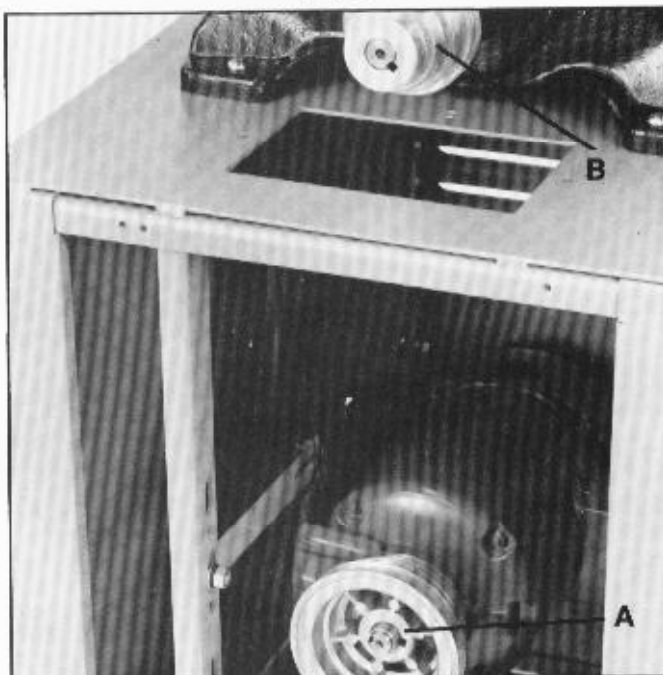

Fig. 4
Both the motor pulley (A) Fig. 4, and the gear box pulley (B) are four step pulleys and should always be assembled opposite each other. Check to see if the gear box pulley (B) is assembled with the largest step of the pulley in the "in" or "out" position. In this case the largest step of the gear box pulley (B) is in the "in" position. Then assemble the motor pulley (A) to the motor shaft with the largest step of the motor pulley in the "out" position, as shown. **NOTE:** When assembling the motor pulley (A) to the motor shaft it is necessary to use the 3/4" to 5/8" reducing bushing on the motor shaft. Delta motors recommended for use with this band saw have 5/8" motor shafts. The motor pulley (A) is supplied with a 3/4" bore to enable it to be interchanged with the gear box pulley (B), as explained later in this manual.